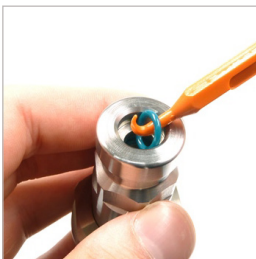

Figure 3
- ▶ Remove Pos. 13 from the recess of Pos. 12 (*Figure 3*) with the WEH® O-ring picker part no. 101969.